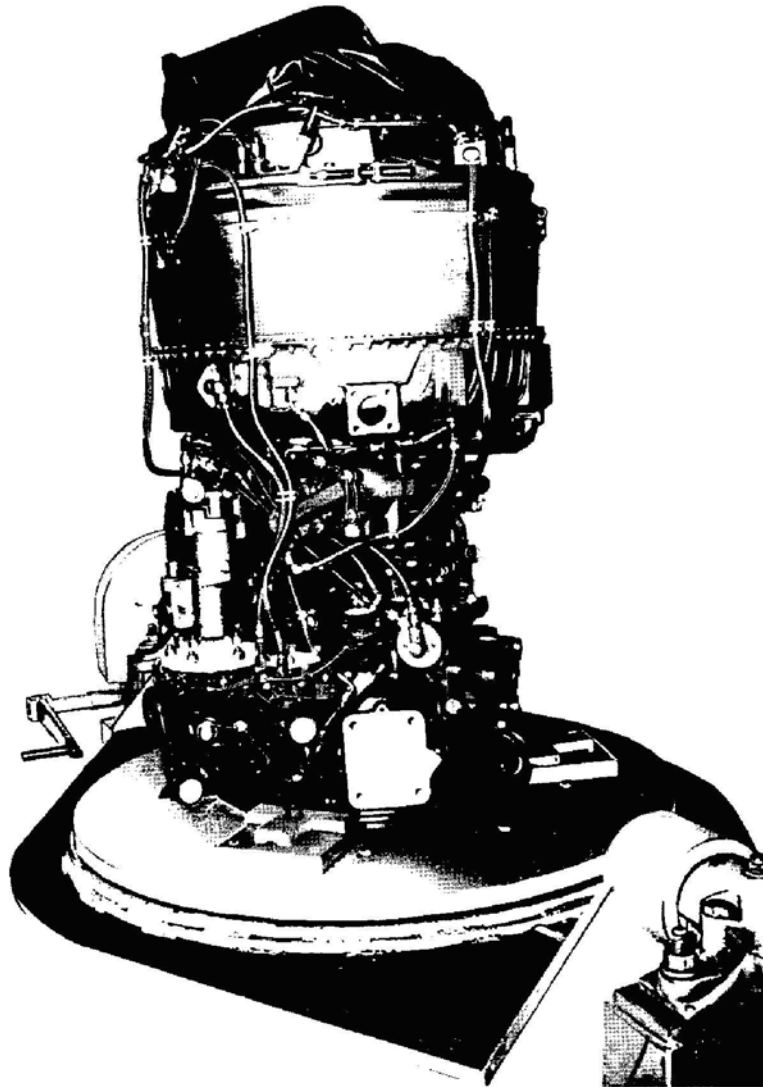

Figure 71-3. Engine Stand
71.1.1.1.11 Hoist engine from helicopter, carefully guiding engine nose out of forward firewall bellmouth. Install engine in suitable stand. (Refer to Figure 71-3).